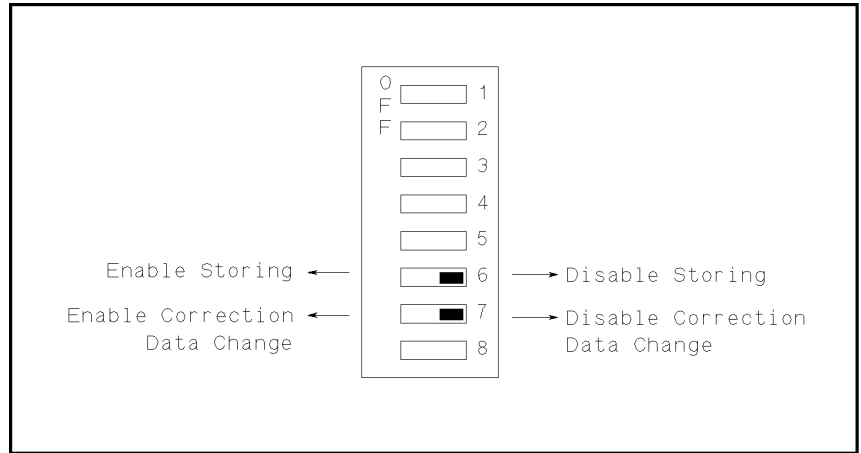

Figure D-2. Write Protection Switch
8. Set A7S3-6 to the right-most position (ON) to disable 4285A's STORE function. Set A7S3-6 to the left-most position (OFF) to enable storing. Refer to Figure D-2.
9. Set A7S3-7 to the right-most position (ON) to disable to change all of the correction settings on the *CORRECTION* page. Set A7S3-7 to the left-most position (OFF) to enable to change all of the correction settings on the *CORRECTION* page. Refer to Figure D-2.